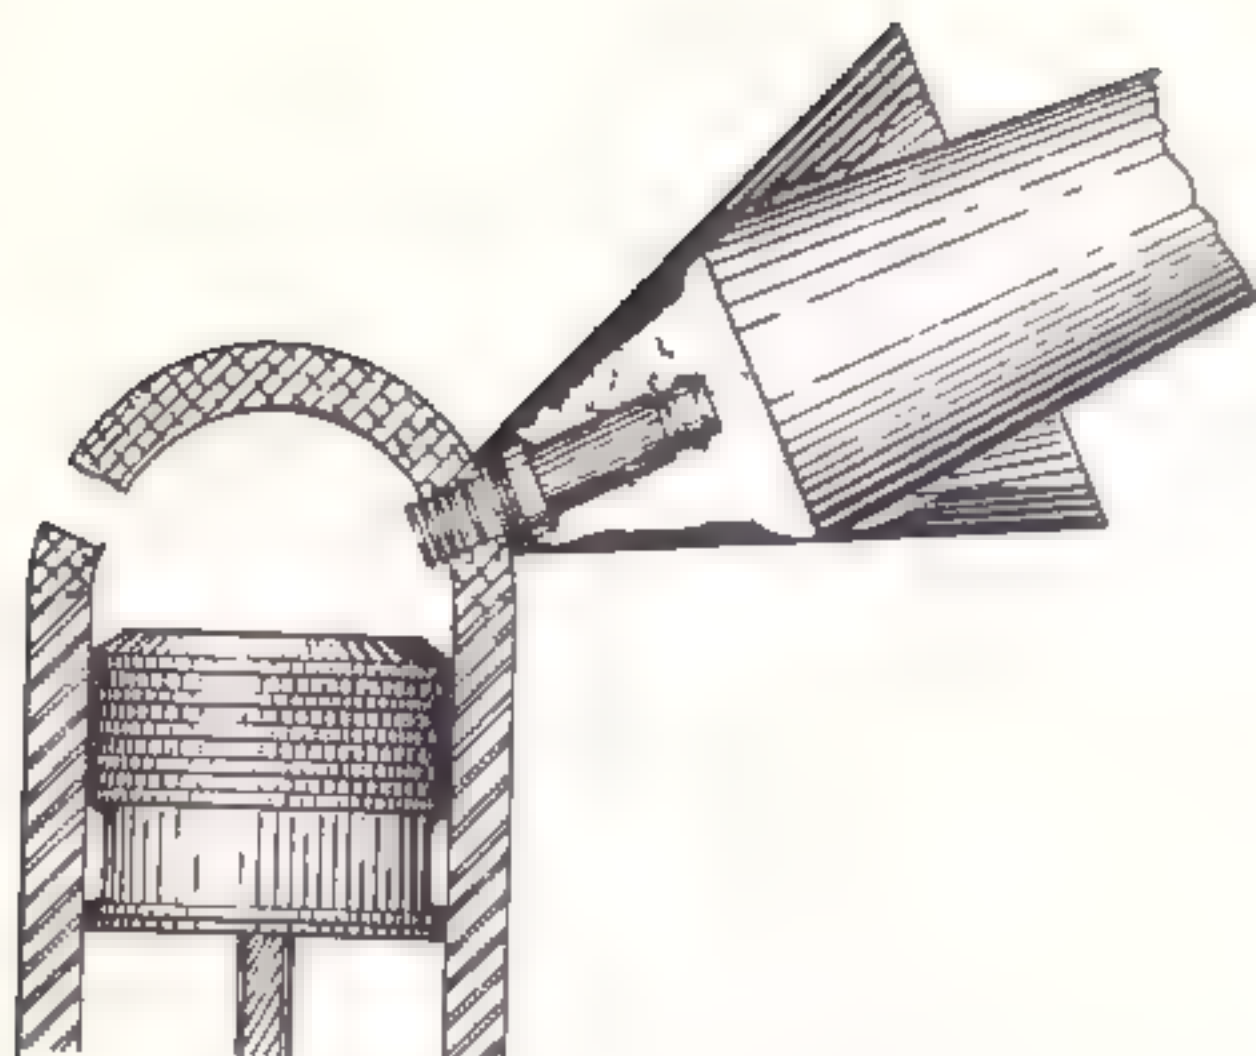

Figure 5-75. Alternate method of removing seized spark plug
(2) Use a conical metal adapter which has a hole at apex just large enough to accommodate spark plug; by placing funnel of a carbon dioxide (CO_2) bottle in adapter, carbon dioxide (CO_2) will chill and contract spark plug which may then easily be broken loose with a suitable spark plug wrench. A warm cylinder head at time of carbon dioxide application is sometimes desirable. (See figure 5-75.)
(3) A mixture of ether (item 70, table 1-8) and penetrating oil (item 71, table 1-8) may loosen hard carbon sufficiently to permit removal of spark plug.
(4) Often an excessively tight spark plug can be removed in one piece if vibration by hand or with an electric or air-driven vibrating hammer is applied to spark plug as pressure is exerted on spark plug wrench in a loosening direction.